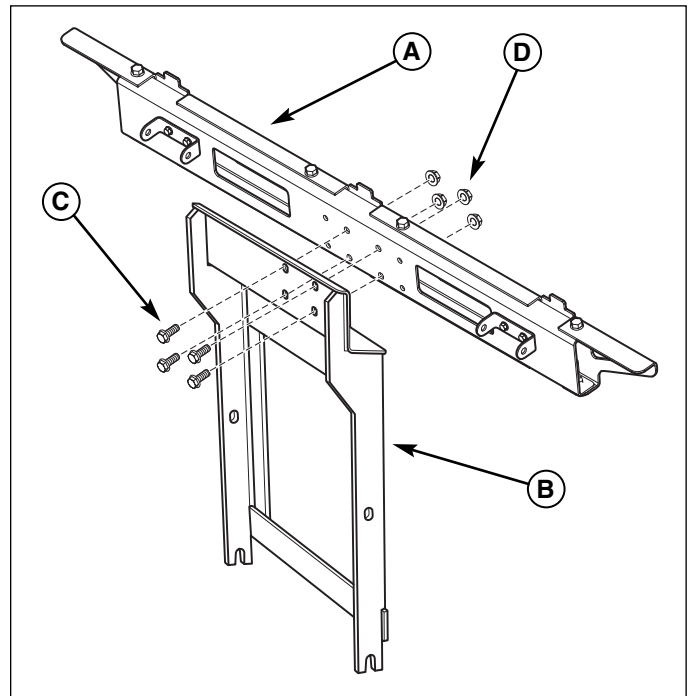

**Figure 7. Install Upright Support**
1. Set the upright support (A, Figure 7) onto pins of hitch plate (B)
2. Secure with rod (C) and hair pin (D).